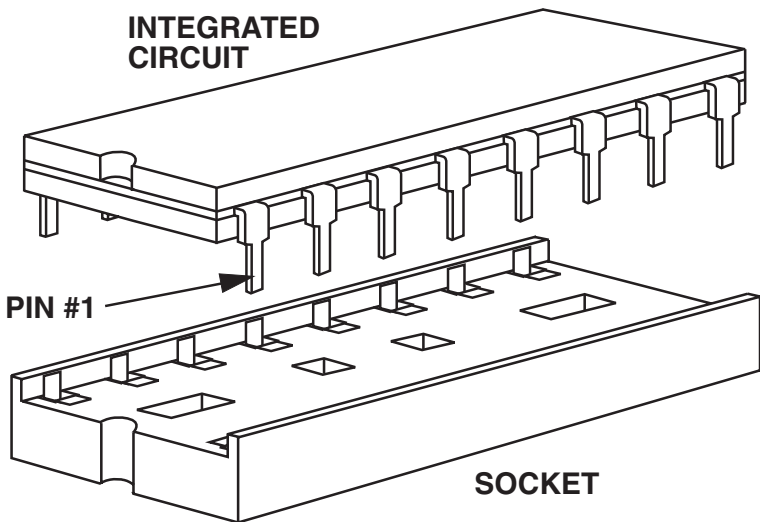

Fig. 3-4. Integrated Circuit and Socket Orientation.
2. Position the IC so that its notch is lined up with the notch in socket U6, as shown in Fig. 3-4.